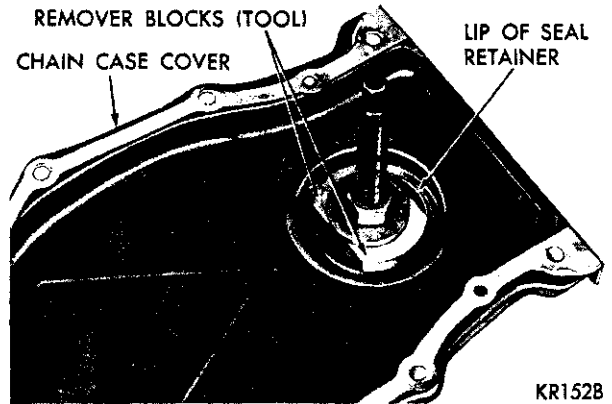
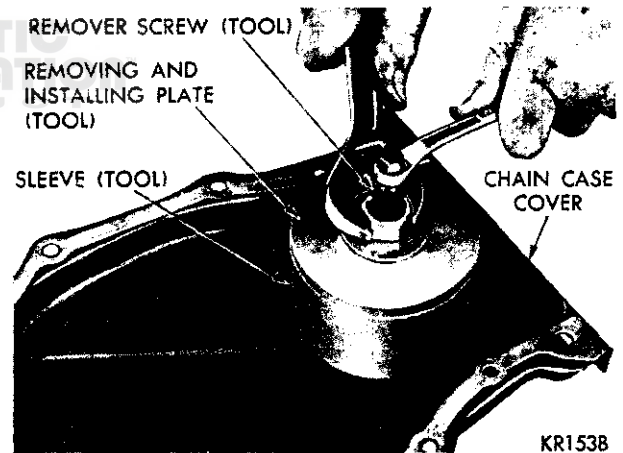

Fig. 23—Remover Blocks Expanded to Puller Position 25). The lip of the neoprene seal must be toward source of oil.
Fig. 24—Removing Oil Seal
(1) Position remover screw of Tool C-3506 through case cover, inside of case cover up. Position remover blocks directly opposite each other, and force the angular lip between the neoprene and flange of seal retainer.
(2) Place washer and nut on remover screw. Tighten nut, forcing the blocks into the gap to a point of distorting the seal retainer lip (Fig. 23). This is important, **remover is only positioned at this point.**
(3) Place sleeve over retainer and place removing and installing plate into the sleeve.
(4) Place flat washer and nut on the remover screw. Hold center screw and tighten remover nut to remove the seal (Fig. 24).
(5) Insert remover screw through the removing and installing plate so thin shoulder will be facing up.
(6) Insert remover screw with the plate through seal opening (inside of chain case cover facing up).
(7) Place seal in cover opening, with neoprene down. Place seal installing plate into the new seal, with protective recess toward lip of seal retainer (Fig.